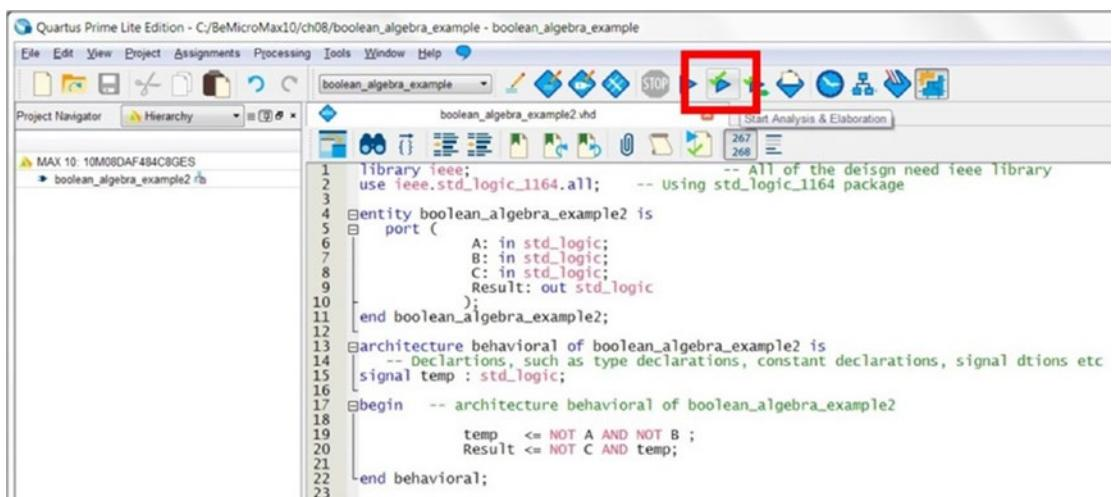
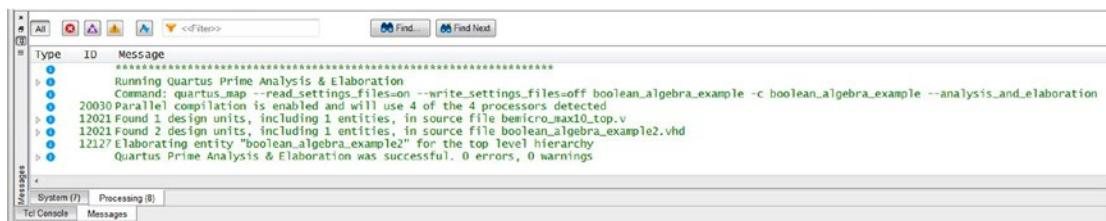

Figure 8-7. Start Analysis & Elaboration button
Figure 8-8. Message after Start Analysis & Elaboration finished
6. Click **Processing ▶ Start ▶ Start Analysis & Elaboration** from the Quartus Prime menu or click the blue triangle with green tick box in the toolbar to start analysis & elaboration (Figure 8-7). It will not have any warnings or errors in the message pane (Figure 8-8).